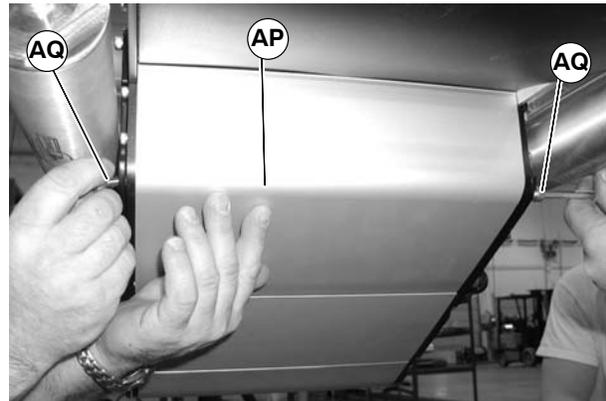

Figure 69
2. Temporarily support idler guard assembly (AP of Figure 69). Remove screws (AQ).